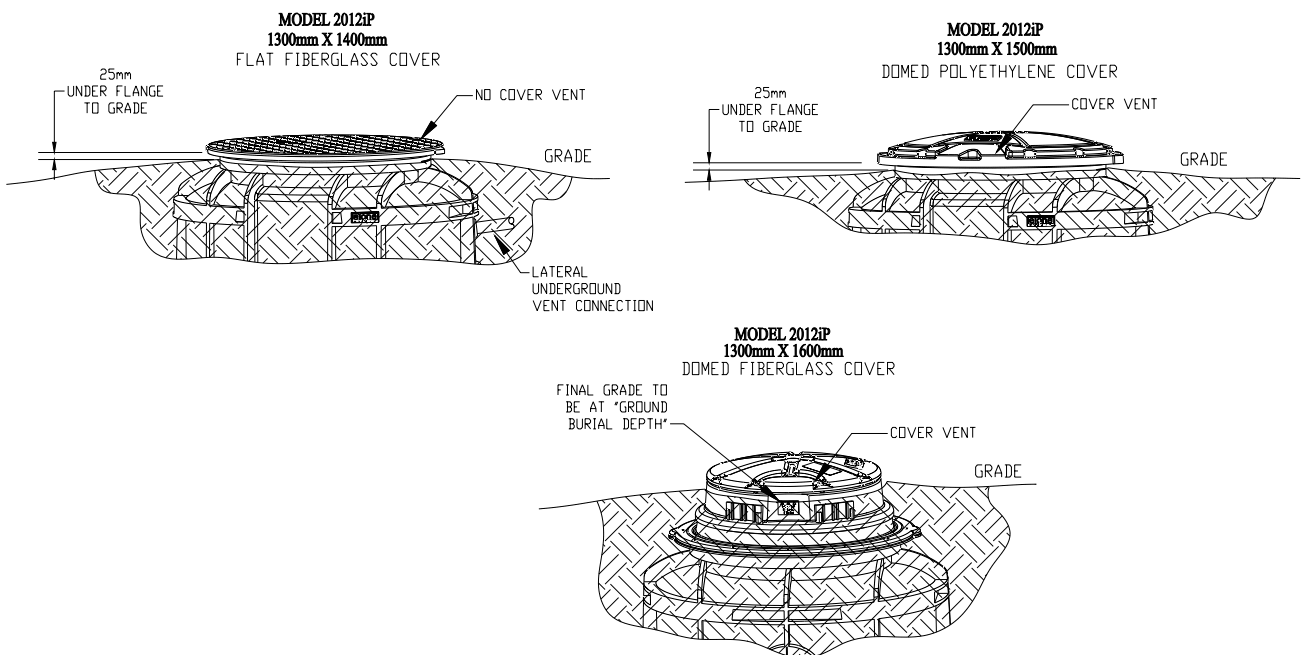

Fig. 4 - Tank Installation
The 2012iP station consists of a grinder pump, tank, pump alarm panel and connecting power (supply) cable. The tank is a polyethylene basin complete with a gasket-sealed, lid. Three lid styles are available for the 2012iP station (Figure 4). Sewage enters
material, such as gravel, in accordance with the site engineer's requirements. The depth of the excavation must be sufficient to accommodate the bedding material and tank burial. The station's burial depth depends on the specific 2012iP model being installed. Figure 4 shows the appropriate burial depth by model (cover style) for each. The size, shape and shoring requirements of the excavation will be based on the soil conditions and should be in accordance with the site engineer's recommendation and safety requirements.
6. Venting (Figure 4)
operation. The method of station ventilation will vary depending on the specific model ordered. The vent location for each model is shown in Figure 4. Do not bury the station above the appropriate burial line (by model) indicated in Figure 4. Burial above this level will result in blockage of the integral cover vent system provided on most 2012iP models. If the water level outside of the station is expected to rise above the surrounding grade (flooding), a cover vent system cannot be used. If flood conditions are expected, an underground (lateral) vent system and a solid cover, as shown on the model 2012iP 1300 mm x 1400 mm station, must be used. Refer to the E/One 2000i Lateral Vent Installation Instructions (PA2114P01) for information. **Consult the factory if flood conditions are possible where the station is to be installed.**
Proper backfill is essential to the long-term reliability of the 2012iP grinder pump station. The choice of backfill material is dependent upon the local soil and groundwater conditions and must be in accordance with the site engineer's requirements. The recommended method of backfilling is to surround the unit to the burial level (Figure 4) with proper fill. The backfill material shall be to the satisfaction of the local relevant authority. Backfill shall be free of organic and compressible material and shall be free of voids and cavities. Compaction moisture content shall generally be 1% dry and 2% wet of the optimum content. Backfill shall be compacted to the minimum standard dry density ratios, AS1289, 95%. Clays and silts (12% or more passing
- Proper burial depth – the tank should have been buried to the burial level shown (Figure 4).
station (Figure 4).